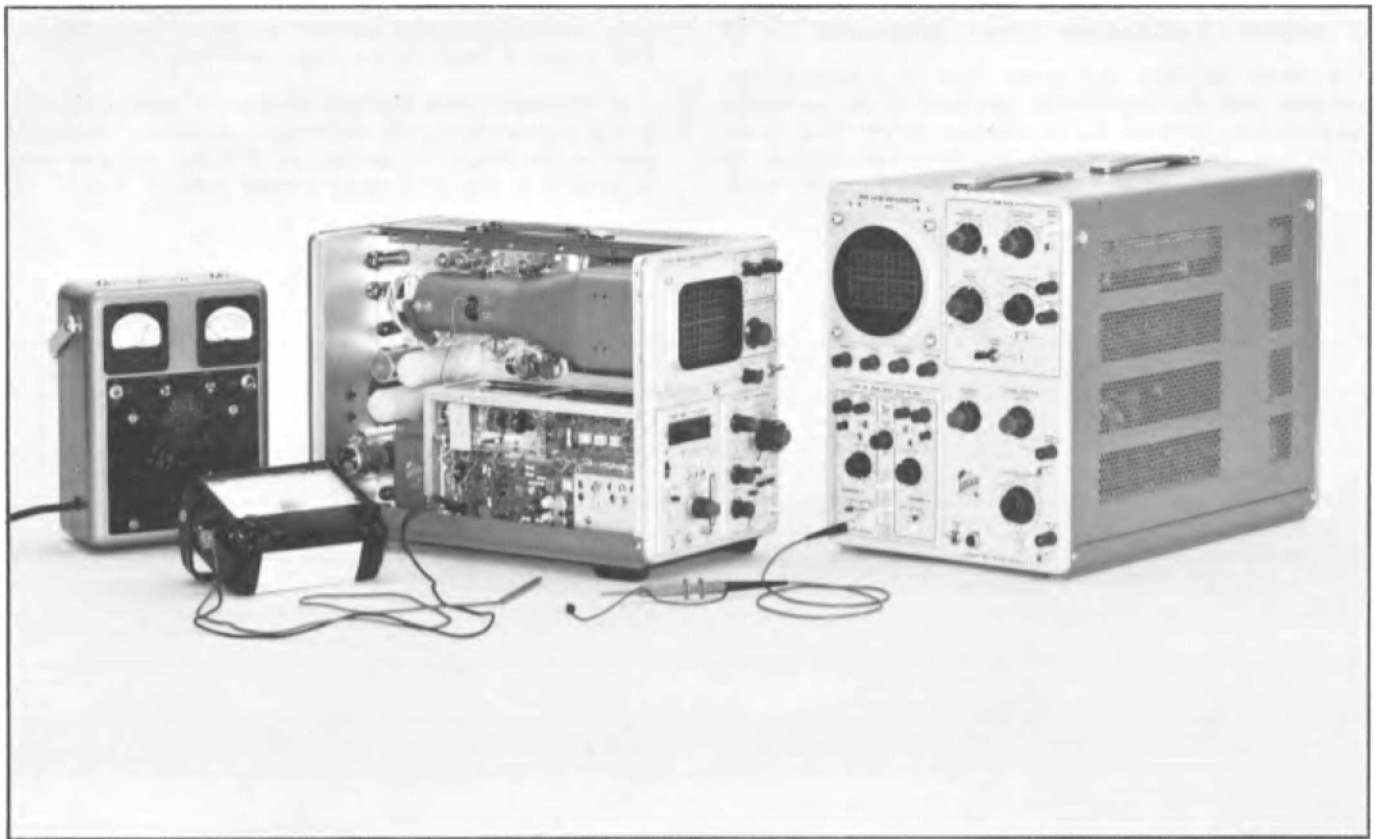

Fig. 6-3. Test setup for checking power supplies.
3. Adjust Oscilloscope Trace Alignment ①
b. Set the instrument controls as shown under Fig. 6-3 and obtain a trace on the Type 561A crt.